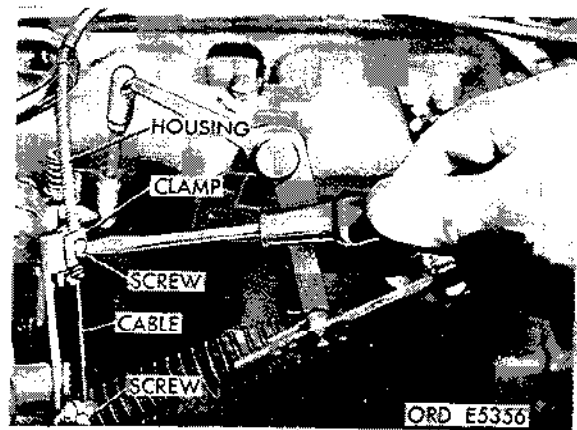

Figure 2-94. Disconnect choke cable.
(5) Loosen two screws retaining choke control cable and housing and pull cable assembly through clamp (fig. 2-94).
(2) Loosen choke control housing clamp screw. Loosen cable stop screw. Pull control cable and housing assembly from stop and clamp (fig. 2-94).